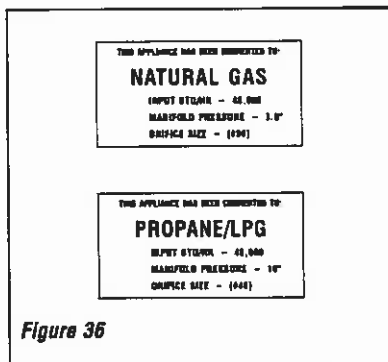

Figure 36
**Step 9.** Attach appropriate conversion kit label (Figure 36) to the rating plate on the appliance.